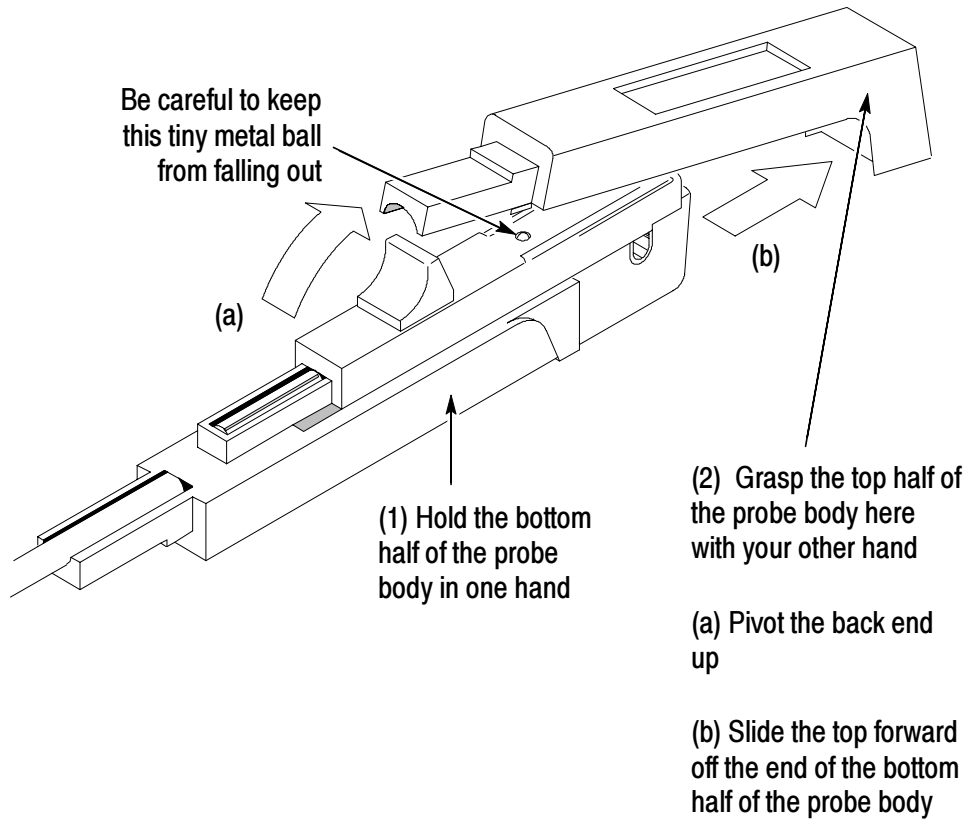

Figure 26: Removing the Top Half of the Probe
3. Hold the probe in a top-up horizontal position and slide the top half of the probe body off as shown in Figure 26.